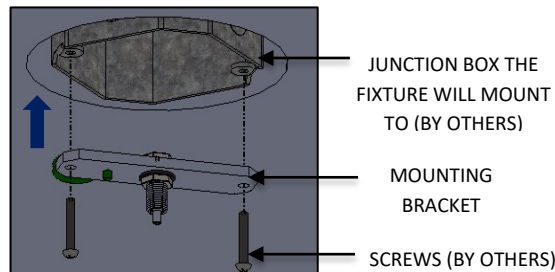

FIG. 20- MOUNTING BRACKET
- Assemble the MOUNTING BRACKET ASSEMBLY to the JUNCTION BOX the fixture will mount to (by others) with screws (by others) as shown in FIG. 20 below.